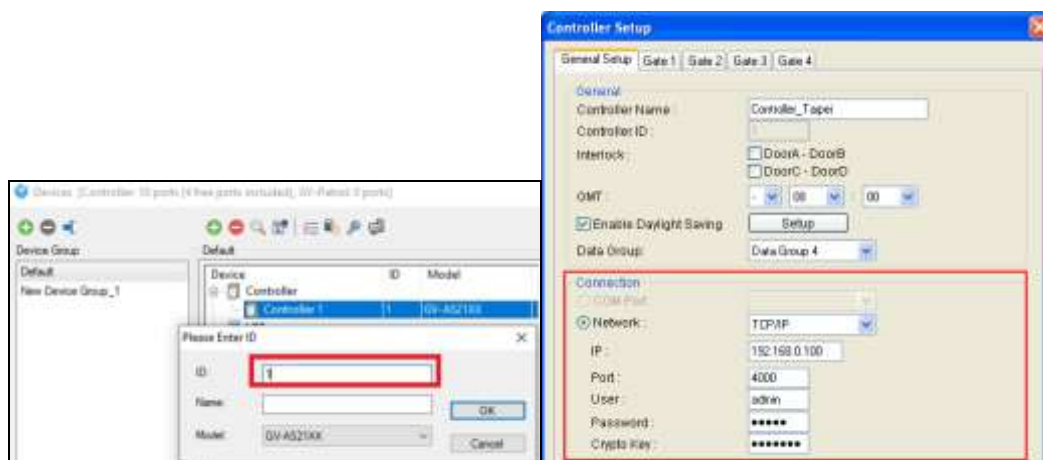

Figure 19-3
7. On the GV-ASManager system, enter the following settings. See Figure 19-3.